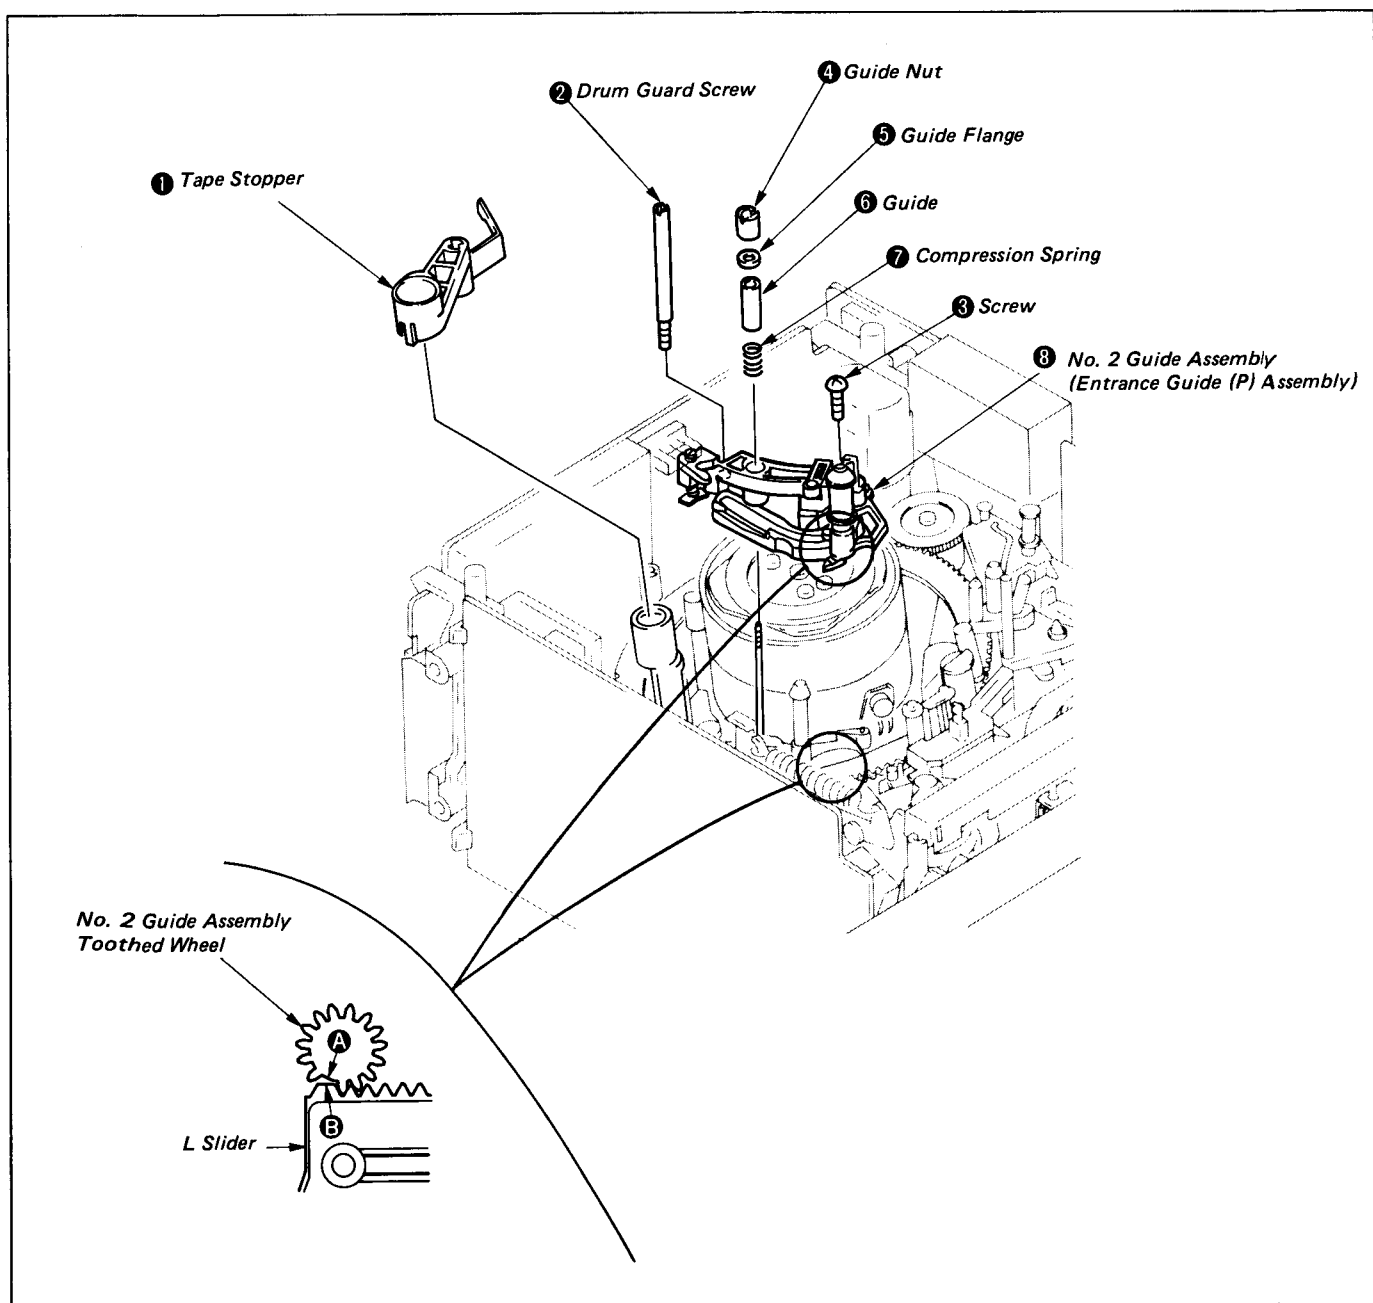

Fig. 1-32
- 1) Remove the tape stopper ① .
- 3) Remove the drum guard screw ② .
- 4) Remove the screw ③ .
- 5) Remove the guide nut ④ of the No. 3 guide, as well as the guide flange ⑤ , guide ⑥ and compression spring ⑦ .
- 6) Remove the No. 2 guide assembly ⑧ . (See Fig. 1-32.)
- 1) Mesh the toothless part **A** of the toothed wheel under the No. 2 guide assembly (entrance guide (P) assembly) and that **B** of the L slider.
- 2) Remount the compression spring ⑦ , guide ⑥ , and guide flange ⑤ in this order and tighten the guide nut ④ temporarily.
- 3) Tighten the screw ③ .
- 4) Tighten the drum guard screw ② .
- 5) Refit the tape stopper ① . (See Fig. 1-32.)